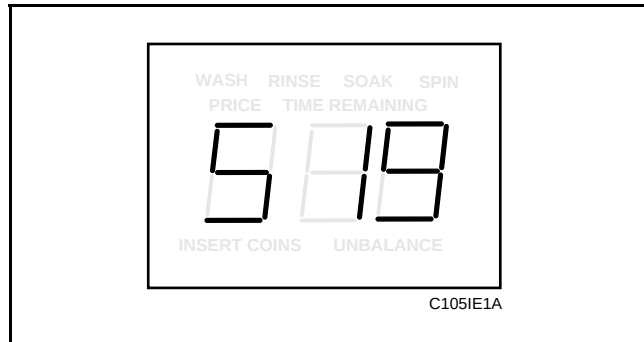

Figure 97
2. While pressing and holding the PERM PRESS keypad with one hand, press the COLD keypad with the other hand. Programmable option number one, “Slg”, will appear in the VFD. See **Figure 97**.